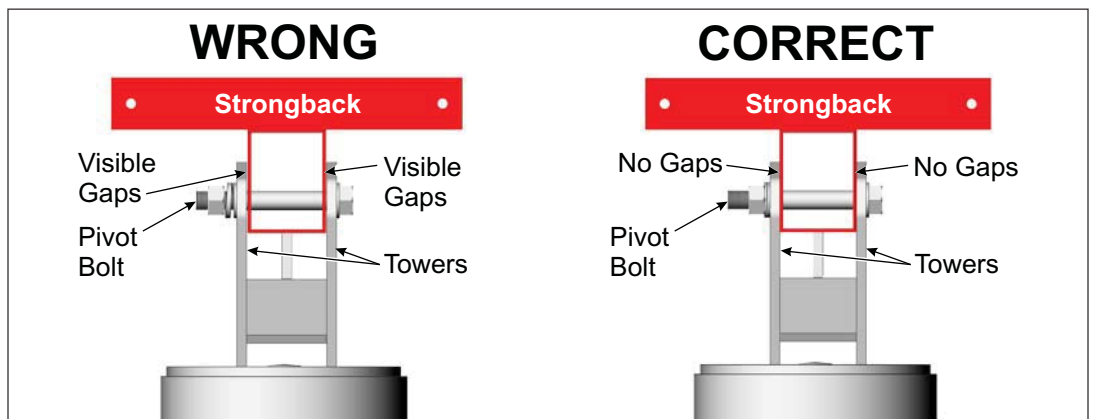

Figure 2-4: Tighten and Torque the Pivot Bolt
G. Return and tighten the Pivot Bolt. The Pivot Bolt cannot be left loose - the Mounting Sleeve Vertical Towers must be firmly clamped to the sides of the Strongback, eliminating any gaps between the Vertical Towers and the Strongback. **Torque to 125-150 ft.-lbs.** (See Figure 2-4)